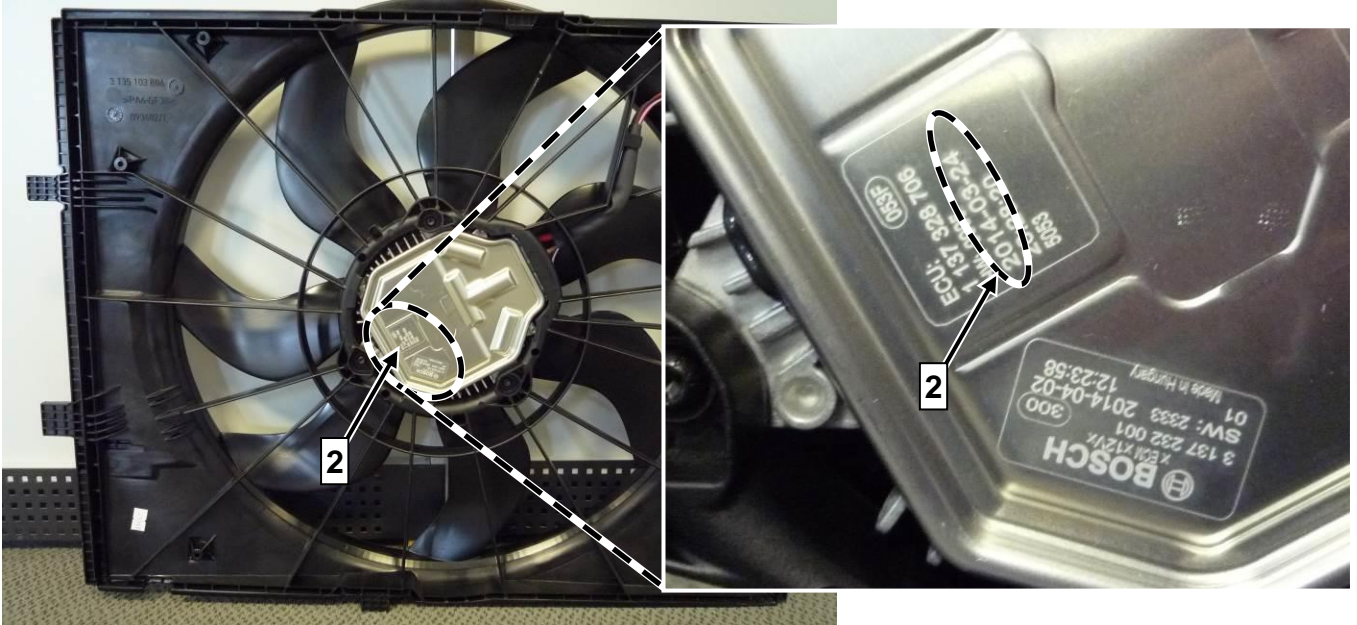

Figure 2
- The production date (2, Figure 2) is located in the lower section of the radiator fan motor (Figure 2).
- If **no** production date (2) can be found in the lower section of the radiator fan motor (**OK**):
If **no** production date (2, Figure 2) can be found in the lower section of the radiator fan motor (OK): Procedure is complete.